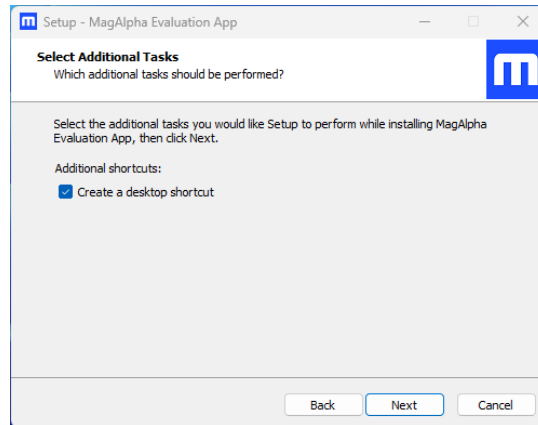

Figure 11: Installation Wizard (Additional Tasks)
- Select whether to add a shortcut on your desktop (see Figure 11).